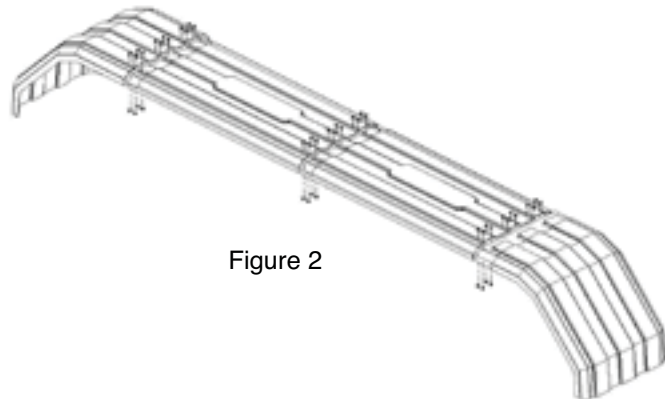

Figure 2
- Using the 1/4" x 3/4" long Phillips truss head bolts, attach the fenders together. Tighten down the bolts using the supplied lock nuts. **DO NOT OVER TIGHTEN** the bolts. Start from the center and work towards the outside. See Figure 2.